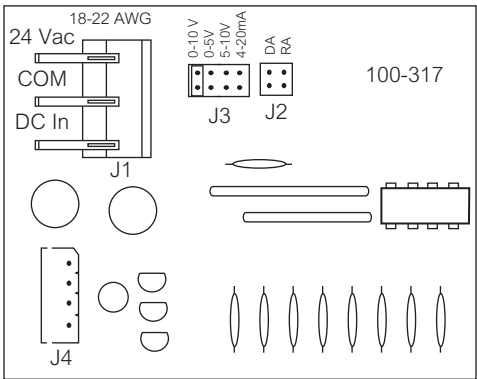
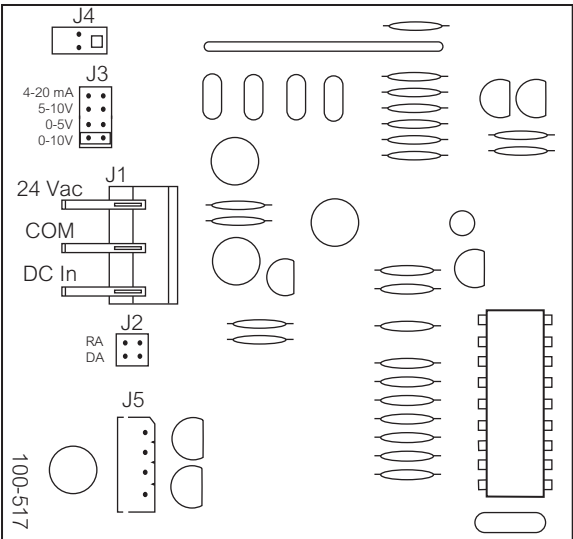

Figure-4 Typical Wiring of Three-Wire Proportional Non-Spring Return Valves.
Figure-5 Typical Wiring of Three-Wire Proportional Spring Return Valves.
1. Remove the cover from the actuator, then connect the power and control wiring to the terminal block (Figure-4 and Figure-5).
Note: All units are shipped with the actuator in the direct-acting, 0 to 10 Vdc mode, which means that the valve opens the B port upon receiving an increasing Vdc control signal. To change the action to reverse-action (valve closes with an increase in control signal), simply remove the action jumper J2 and relocate it to the reverse-acting pins. See Figure-4 and Figure-5.